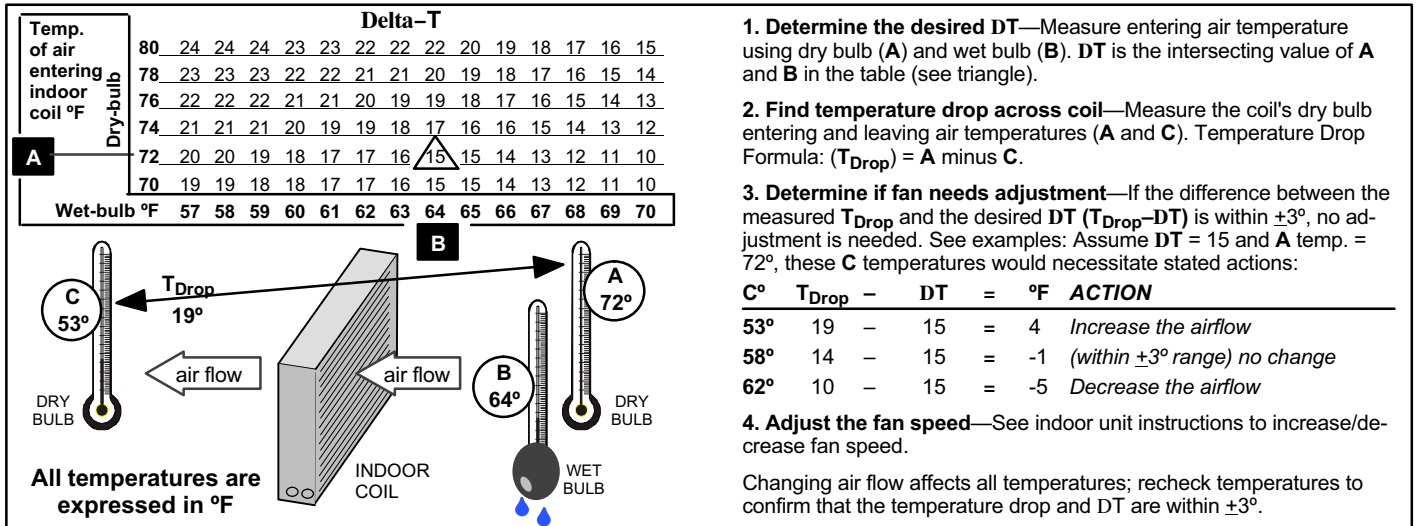

Figure 18. Checking Indoor Airflow over Evaporator Coil using Delta-T Chart
Check airflow using the Delta-T (DT) process using the illustration in figure 18.